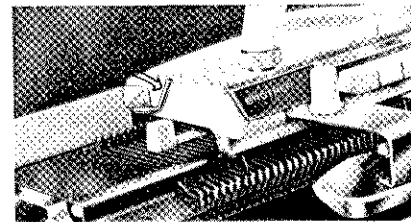

Fig. 18
- b. To set the row counter out of operation turn toward you. (See Fig. 18)